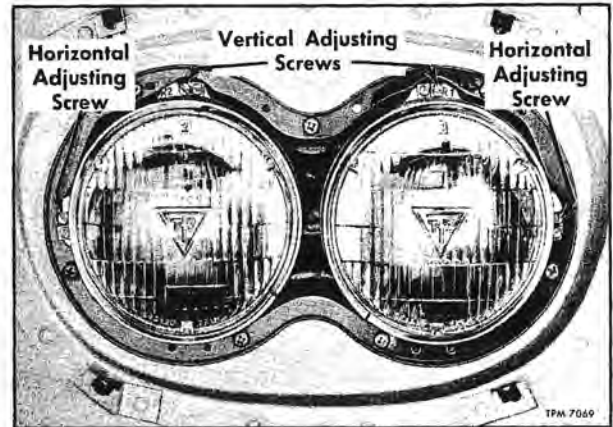

Figure 3—Headlight Adjusting Screws
6. The high intensity zone of the beam pattern should center at the point where vertical line (D-D or E-E) intersects horizontal line B-B. Turn vertical adjusting screw (fig. 3) to raise or lower the beam pattern, and turn horizontal adjusting screw to move it to right or left.